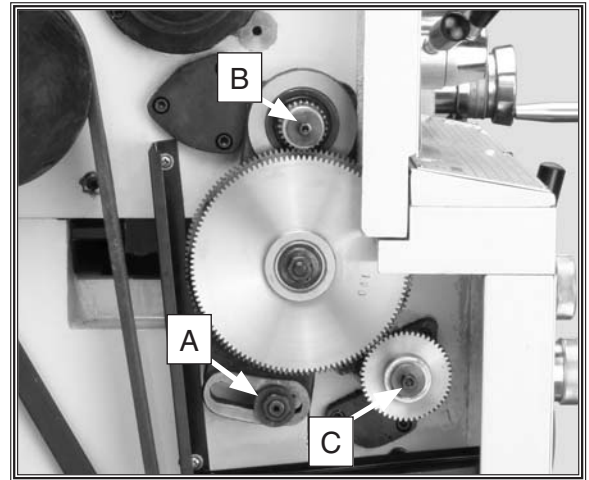

Figure 60. Gear change locations.
3. Loosen the hex nut on the pivot just below the large gear in **Figure 60, Item A**.
5. Remove the cap screw in **Figure 60, Item B or C**, depending on which gear is to be changed.
7. Loosen the hex nut in **Figure 60, Item A**, and move the gear set up until the larger gears mesh with the smaller gears. Tighten the nut to hold the large gear set in place. Make sure there is a gap of 0.001"-0.002" between gears.